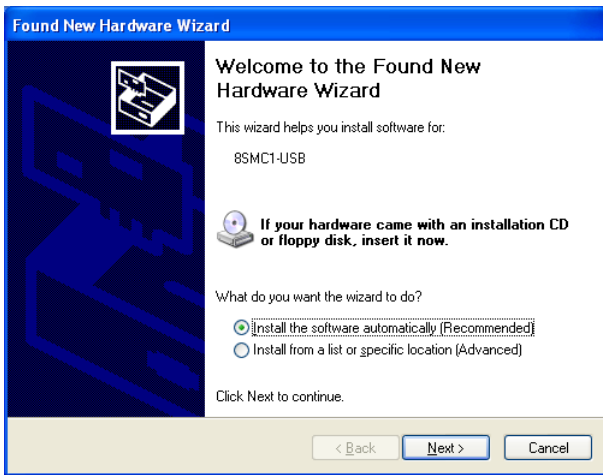
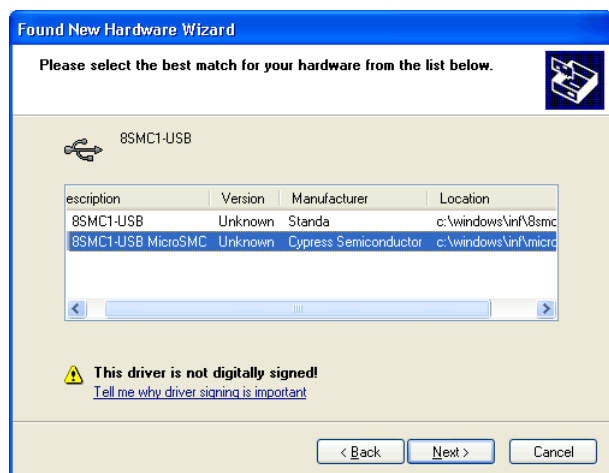
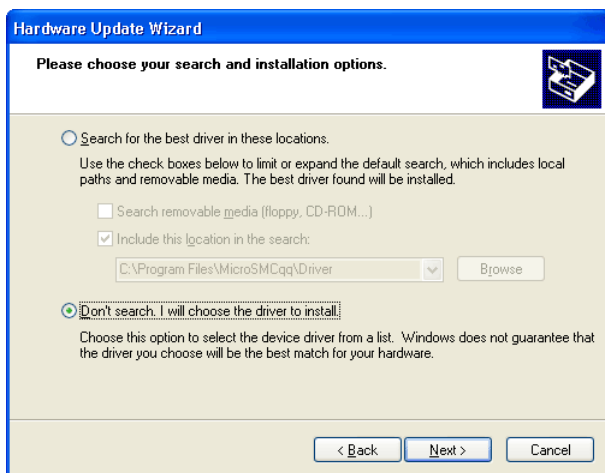

Figure 61. Hardware wizard 2nd screen
Figure 69. Choosing USB driver from list
Figure 79. Manual USB driver installation
- Then choose (see Figure 61) Install the software automatically (Recommended) and press the "Next>" button.
- Then disconnect USB cable of your 8SMC1-USBhF controller and connect it again. When Hardware Wizard found new hardware and will offer you to install a new driver choose "Install the software automatically" (see Figure 61) then from the list of found drivers choose 8SMC1-USB MicroSMC driver (see Figure 69).
Although MicroSMC driver supports up to 32 8SMC1-USBhF devices and NI VISA driver supports up to 30 8SMC1-USBhF devices simultaneously, WindowsXP Hardware wizard in “Install the software automatically (Recommended)” mode (see Figure 61) may work improper if more than 6 8SMC1-USBhF devices are connected. In case of that improper work Hardware wizard has been looking for USB driver several minutes and find nothing, USB driver will not be installed and 8SMC1-USBhF controller will mark with “?” in Device Manager device list. If it is happened make a right click on this 8SMC1-USBh controller and choose “Update driver...”.
At screen like Figure 61 choose "Install from a list or specific location (Advanced)". At the next screen choose "Don't search. I will choose the driver to install" (see Figure 79). Then choose appropriate driver from list (see Figure 69).
Use this way always when you are installing a lot of 8SMC1-USBh devices: choose at screen like Figure 61 "Install from a list or specific location (Advanced)" and "Don't search. I will choose the driver to install" then.